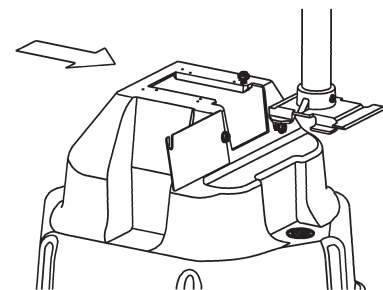

Figure 2
6. Slide mounting plate onto ballast housing, making sure that the upper rim of the ballast housing slides into the rails of the mounting plate. (Figure 2)